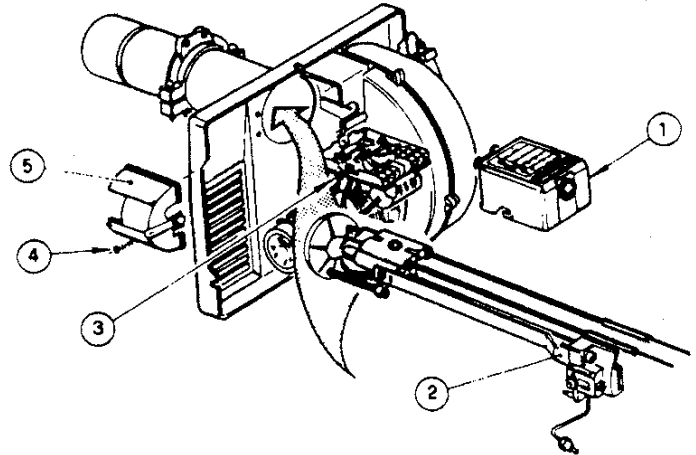

Figure 4: Installation/Removal of Drawer Assembly
- a. **Installation/Removal of Drawer Assembly**, refer to Figure 4.